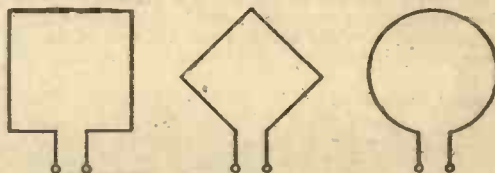
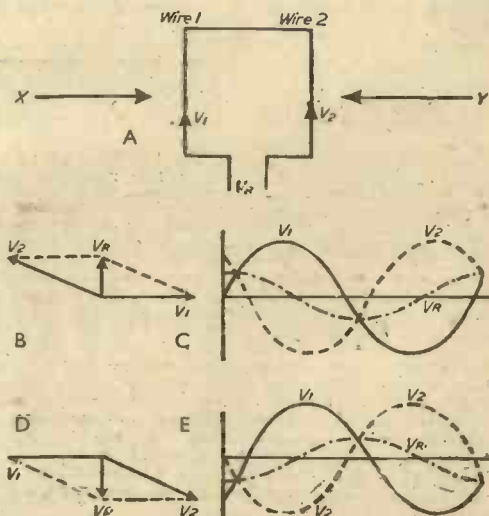

Fig. 97.—Types of loop aerial.
Fig. 98.—Vectors and waveforms of loop aerial when considering two directions.
If we have a symmetrical aerial of one of the types shown in Fig. 97 we shall find that its polar diagram indicates a bi-directional response, i.e., when the loop is "edge-on" to the transmitter maximum signal voltages occur across the loop terminals, the "flat-on" position giving minimum signals. Consider the wave-front to be approaching "edge-on" to the loop in Fig. 98 from a transmitter X. Wire number one is struck and a fraction of a second later wire number two receives the radiation, thus the wires have voltages induced in them, but the second wire has its voltage lagging on the first. These voltages are, of course, at radio frequency but for analytical purposes let us consider the first half cycle of voltage to be induced in the wires. It can be seen that V_1 and V_2 act against one another around the loop (are out-of-phase), but because voltage number
two occurred after V_1 , they are not *exactly* out-of-phase (180 deg.) and therefore do not cancel completely, thus a signal will be received across the loop terminals (V_R) which is the sum of V_1 and V_2 . Fig. 98 (B) and (C) show the waveforms and vectors of this process.
If the transmitter is situated at Y (Fig. 98 (A)) then wire number two is struck *first*, resulting in a complete reversal of V_R as shown by the waveforms and vectors of Fig. 98 (D) and (E). This reversal of phase due to reversal of direction is very important, as we shall see under the heading of "sensing."